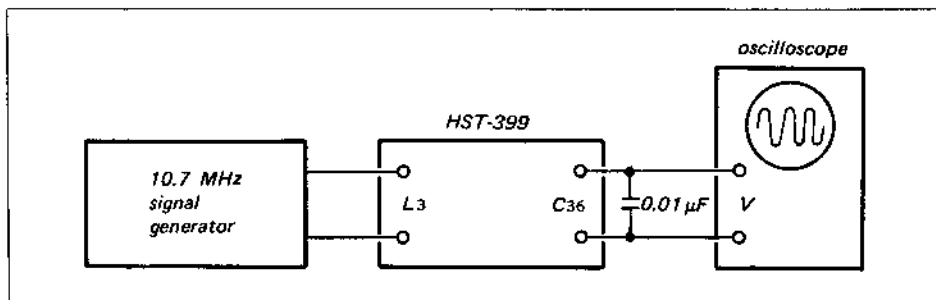

Fig. 3-13 Discriminator alignment test setup, signal generator alignment
- With the equipment connected as shown in Fig. 3-13 on page 17, set the signal generator's controls as follows: